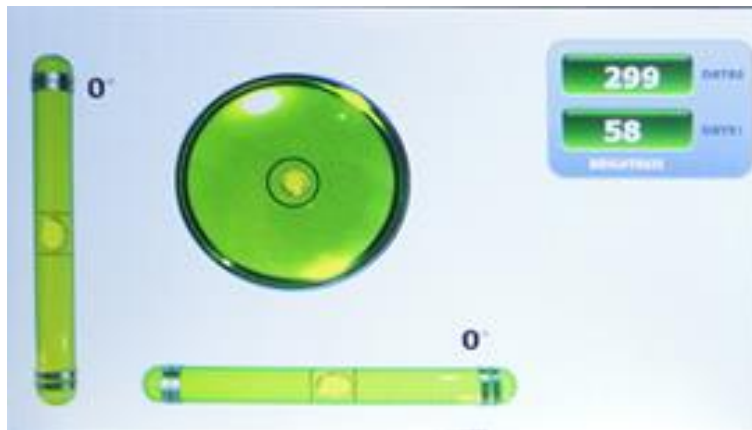

Figure 4-9 Digital Accelerometer demonstration
- Tilt the VEEK-MT-C5SOC to all directions, and you will find that the angle of the g-sensor and value of light sensor will change. When turning the board from -80° to -10° and from 10° to 80° in Y-axis, or from 10° to 80° and from -80° to -10° in Y-axis, the image will invert. Figure 4-9 shows the demonstration in action.